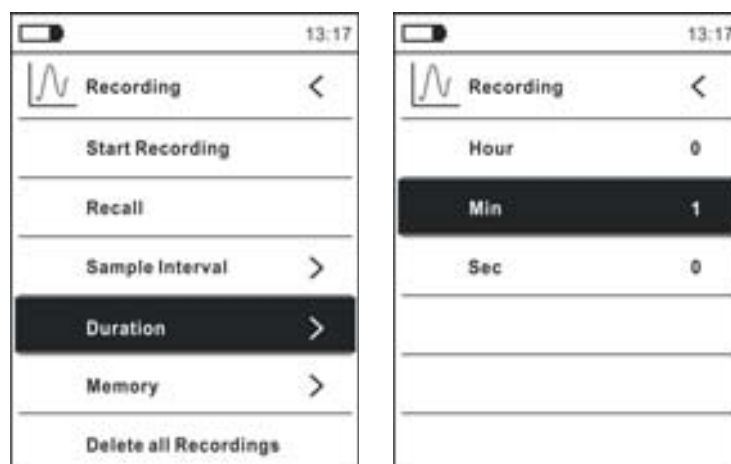

Fig. 36: Data logger function – Setting of recording duration
8. Select item "Duration" (see Fig. 36 – left side) and press key **▶**. The screen in Fig. 36 – right side appears on the display.